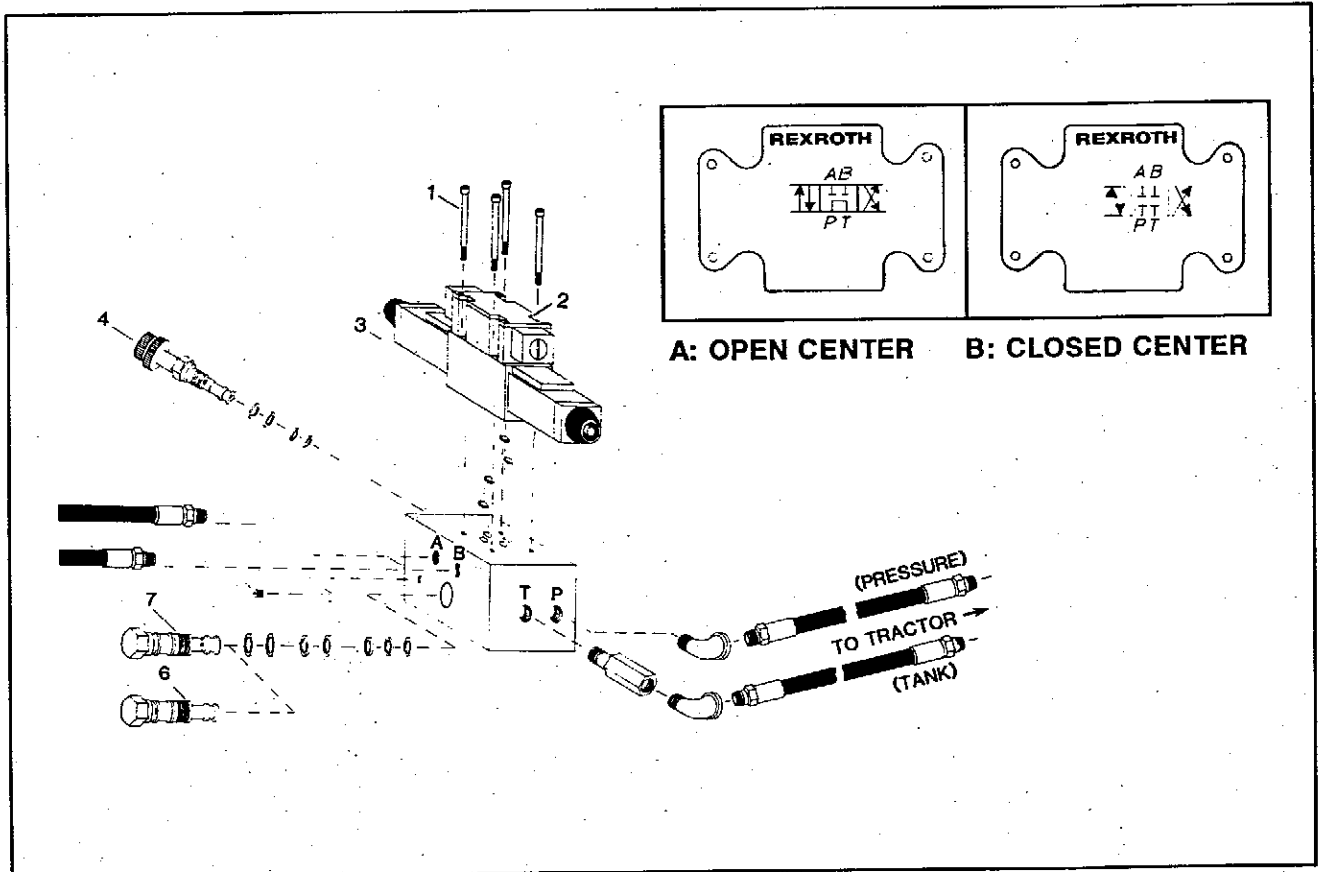

Figure 1. Hydraulic Valve Assembly.
hydraulic bypass cartridge, part # LRFC-XDN, (ref 7 fig 1). The correction speed of the guide hitch is controlled by using the flow control valve on the guide hitch hydraulic valve assembly.
Changing Componets -- There are two componets to change when matching a Hydraulic Valve Assembly to one of the tractor hydraulic systems mentioned above. 1) the electric solenoid valve (ref 3 fig 1) 2)the hydraulic cartridge (ref 6,7 fig 1) To change the solenoid valve you need to first unscrew the 33" electrical cable (ref 38 page 5.6) from the toolbar sensor. Second, you must remove the four allen head cap screws (ref 1 fig 1), and lift off the solenoid valve. When replacing the solenoid valve, make sure that the O-rings are in place as you set the solenoid valve back on the block. To switch the hydraulic cartridge, you need a 1 1/8" wrench to unscrew the cartridge and replace the other one. Make sure that you put grease on the O-rings of the cartridge when you replace it into the block.